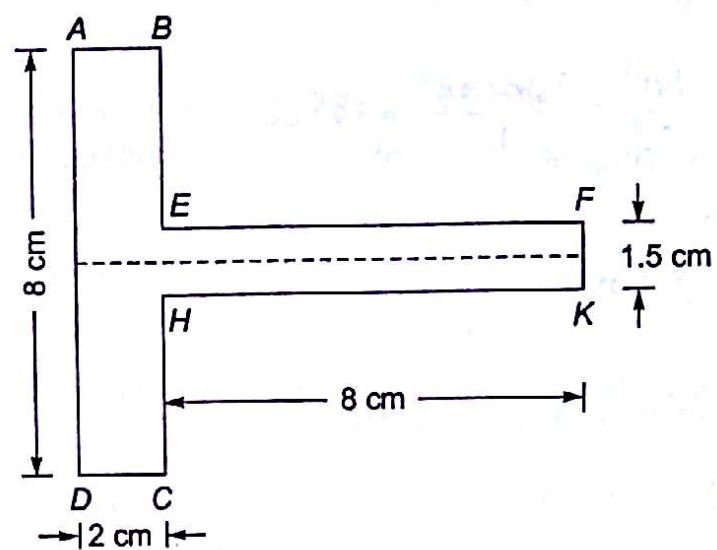

Fig. 5.22
5.9 In a thin uniform lamina having symmetrical central axis as shown in Fig. 5.22. The distance of centre of gravity from AD is